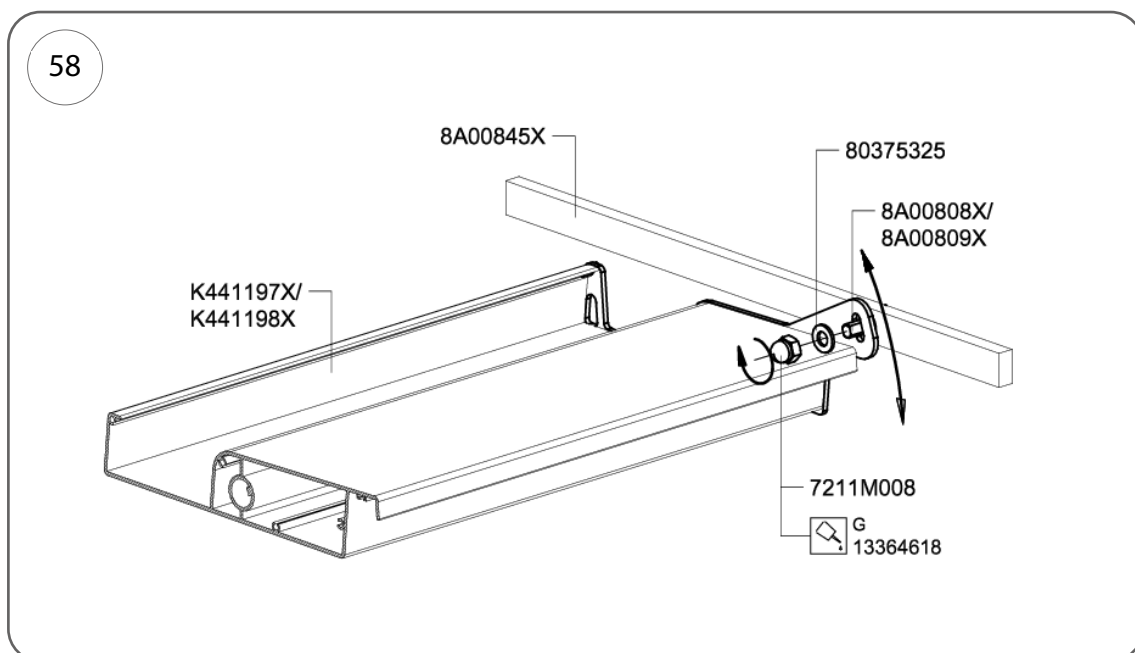

Fig. 58
4. In the fully closed position, check that the slat profiles fit together properly. Correct any unevenness in the roof using the adjustment system shown in Fig. 58. Once the roof is positioned, secure the slats by tightening the locking nut (cat. no. 7211M008). Coat the thread with thread sealant, cat. no. 13364618.